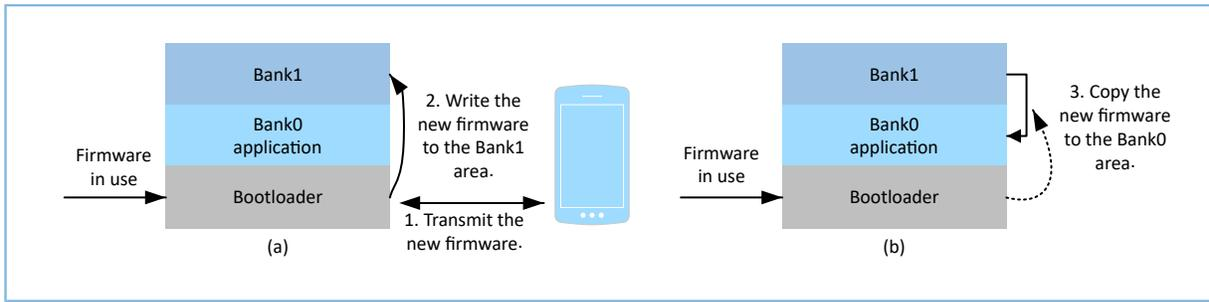

Figure 1-2 Schematic diagram of non-background dual-bank DFU mode
- The schematic diagram of the non-background dual-bank DFU mode is shown in Figure 1-2. The upgrade process mainly consists of the following steps: